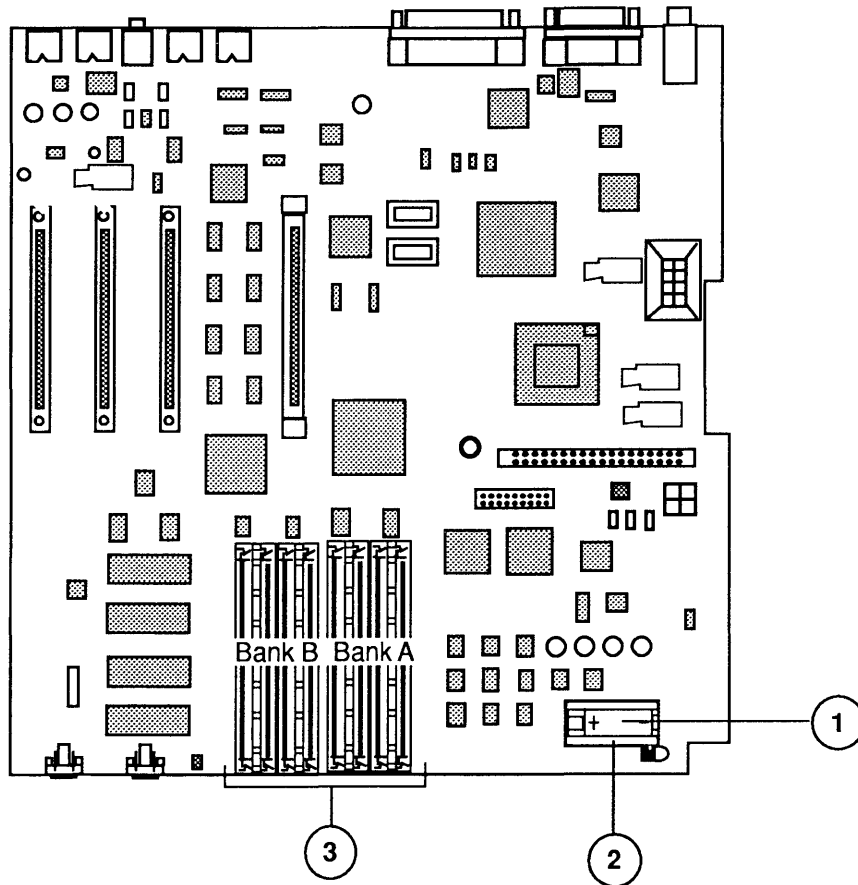

Figure 4 Macintosh IIcx – Logic Board
□ **MACINTOSH IIcx – LOGIC BOARD (Figure 4)**